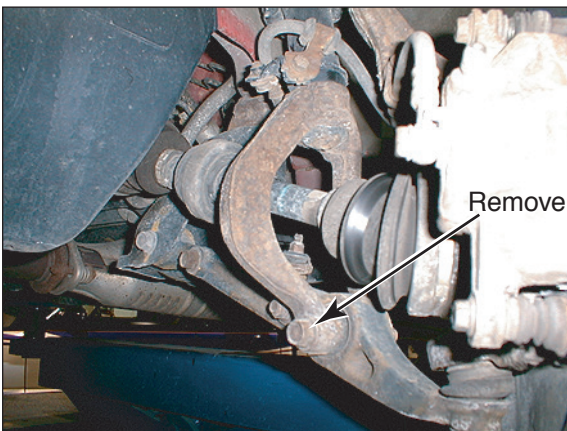

Figure 4
4. Remove the bottom nut and bolt that holds the lower strut mount to the lower control arm (Figure 4).